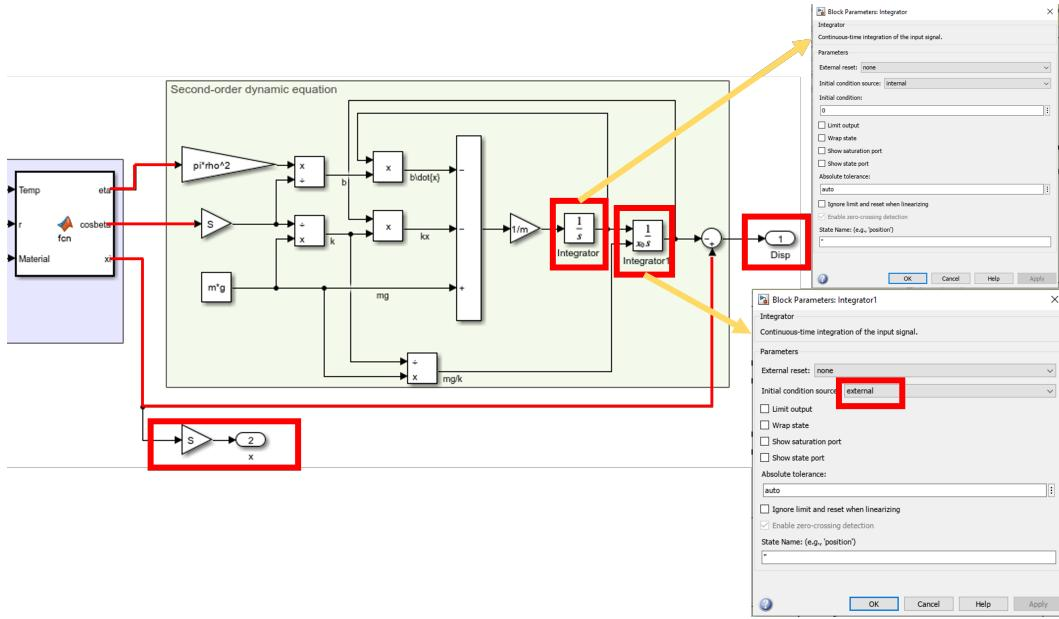
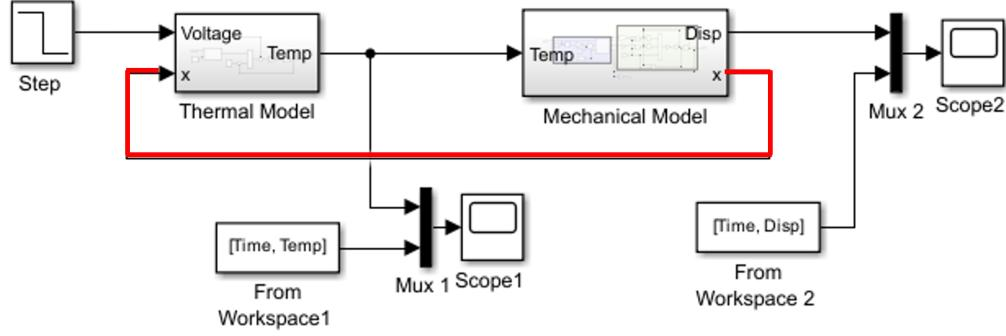

Figure 12: Second-order dynamic equation in SIMULINK
Figure 13: Completed Model
6. Figure 12 shows the implemented model as a screenshot. Finally, remove the constant xi and connect the feedback x from the Mechanical Model block back to the Thermal Model block, as in Figure 13. This concludes